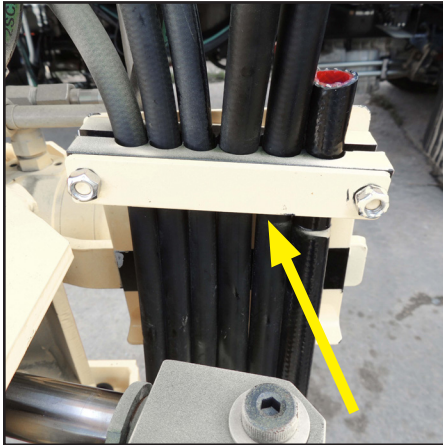

Figure 6
11. At the lower portion of the hose assembly (next to the grabber), use a 9/16" socket wrench to remove and retain the hose clamps, nuts, and washers (Figure 6). Discard the bolts.